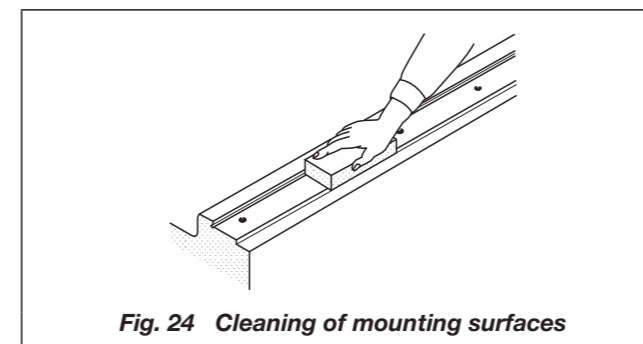

Fig. 24 Cleaning of mounting surfaces
- Remove burrs and blemishes from mounting surfaces and reference mounting surfaces of the machine using an oil-stone, etc., and then wipe the surfaces with clean cloth. (See Fig. 24.)